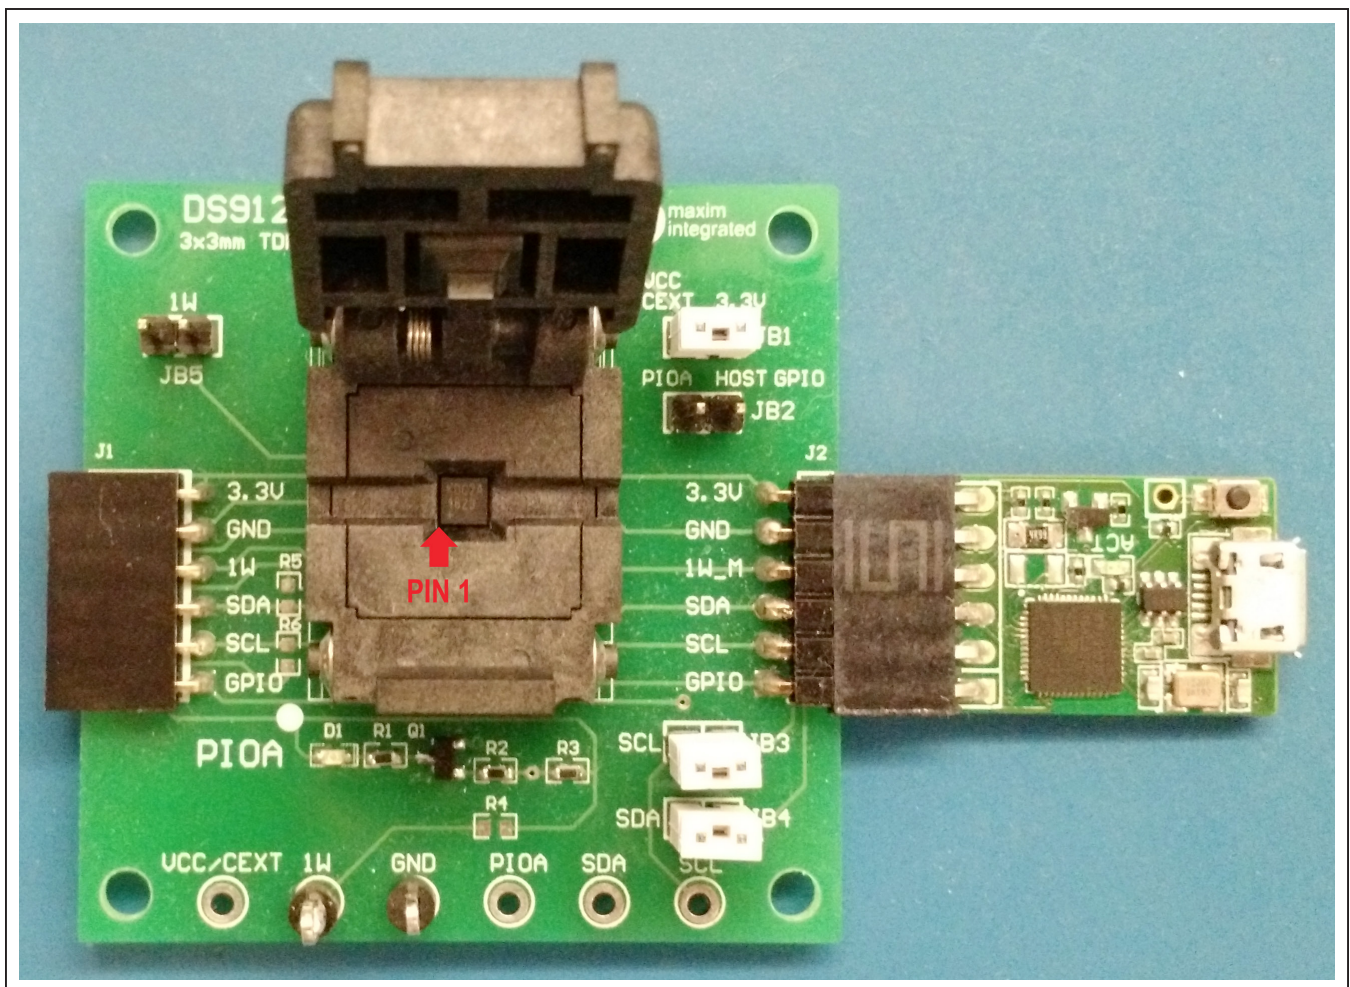

Figure 1. Orientation in Burn-In Socket
- 4) Open the first DS9121BQ+ socket, insert a DS28E16 into the cavity per the same orientation shown in Figure 1, and close the burn-in socket.
- 6) Open the second DS9121BQ+ socket, insert a DS2477 into the cavity per the same orientation shown in Figure 1, and close the burn-in socket.